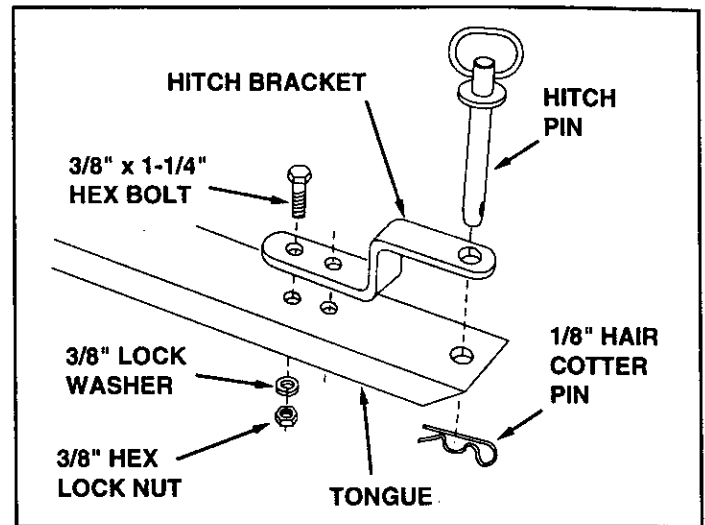

FIGURE 10
- Assemble the hitch bracket to the front tongue using two 3/8" x 1-1/4" hex bolts, 3/8" lock washers and 3/8" hex lock nuts. **Tighten.** See figure 10.
- Assemble the hitch pin to the hitch bracket and tongue, securing it with the 1/8" hair cotter pin. See figure 10.